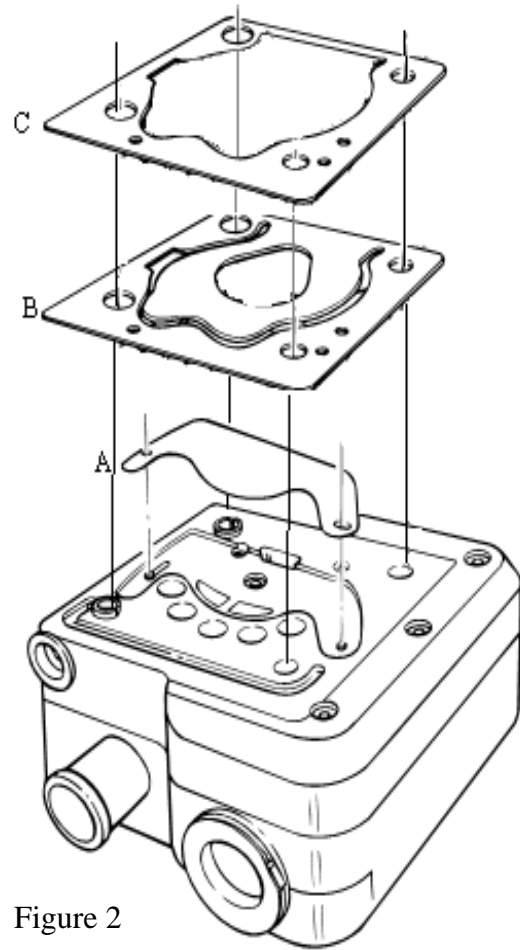

Figure 2
1. Flip head upside down as shown in Figure 2
2. Coat the sliding leaf valve (A) lightly with engine oil. This will help hold it in place.
3. Install the sliding leaf valve. Align the two holes of the sliding leaf valve with the two pins on bottom of head as shown in figure 2.
4. Install inlet valve (B). Coat lightly with engine oil. Align valve with the large holes and the alignment sleeves as shown in Figure 2.
6. Install cylinder head gasket (C). Make sure all holes between cylinder head gasket and inlet valve are aligned as shown in Figure 2.